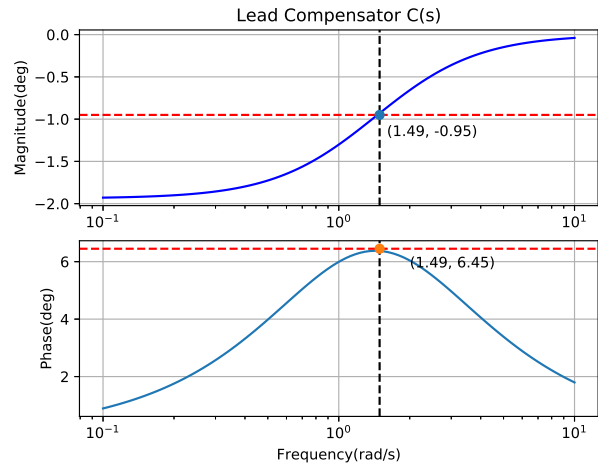

Fig. 2.2
2.3. Plot overall graph after adding lead compensator. Refer Fig2.2 for plot $C(s)G(s)$.